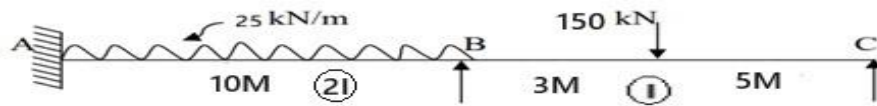

Fig. Q7
7. Analyse the continuous beam shown in Fig. Q7 by Flexibility matrix method. Draw SFD & BMD 20 (3 : 4 : 2.2.1)